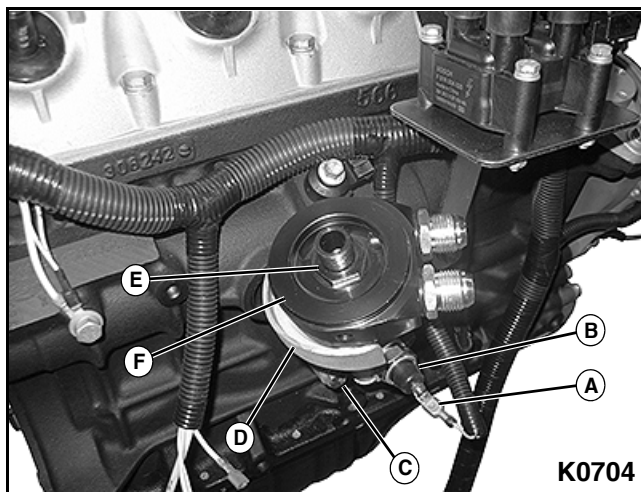

Figure 3-111
2. Disconnect electrical connection (A) from oil pressure sensor (B). **See Figure 3-111.**
3. If equipped: Remove oil cooler adapter center standoff nut (E) and oil cooler adapter (F).
4. Remove three mounting bolts (C) from oil filter base (D) and remove oil filter base from cylinder block. Close all openings.